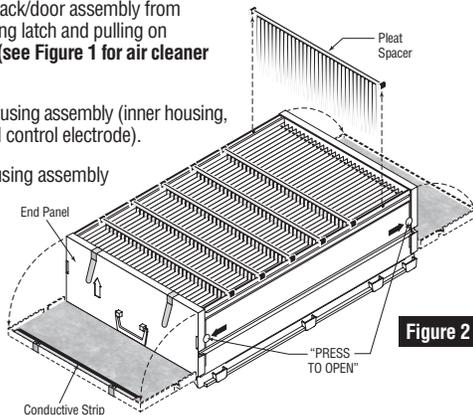

Figure 2
Step 3: Lay the inner housing assembly on a flat surface so pleat spacers are visible (see Figure 2).
Step 4: Remove pleat spacers by rotating and lifting both ends (see Figure 2).
Step 5: Open both end panels by pressing buttons labeled "Press to open" (see Figure 2).